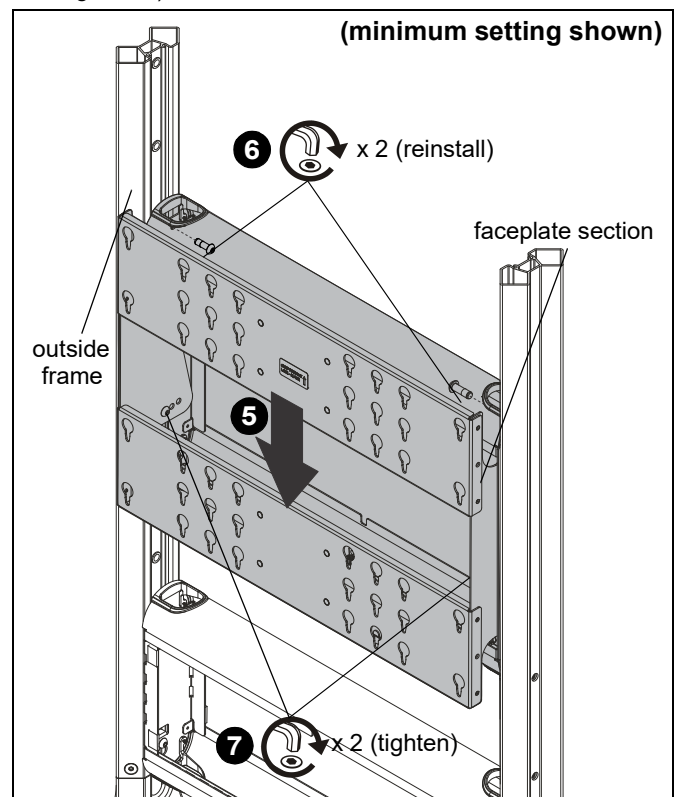

Figure 20
5. Slide faceplate section back down outside frame until it sits on relocated screws. (See Figure 20)
6. Reinstall button head screws removed in Step 1 into corresponding screw holes. (See Figure 20)
7. Tighten button head screws relocated in Step 2. (See Figure 20)